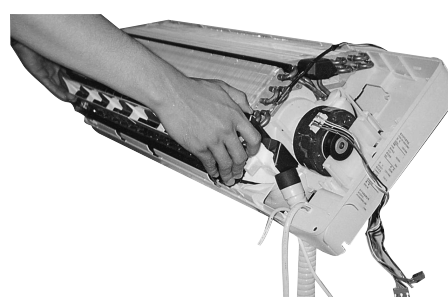

Fig. 10
2. Remove the Air Discharge Grille by taking off the screws that hold the Air Discharge Grille and then pull the Air Discharge Grille in a down and forward direction. (Fig. 10)